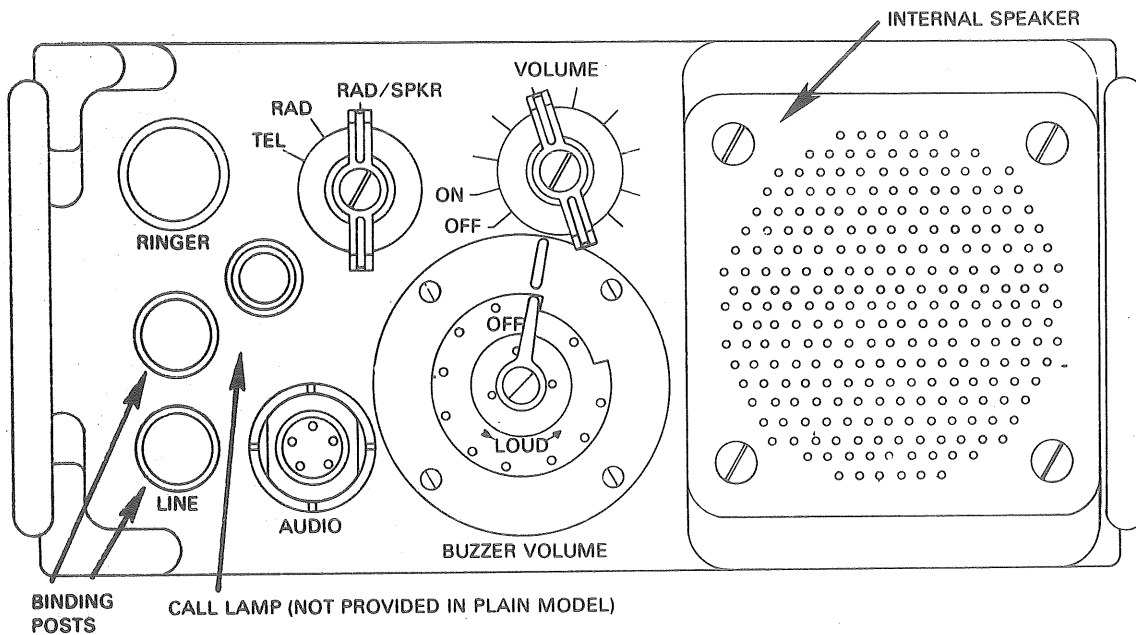

Figure 2. Remote Control C-2328(*)/GRA-39, controls, indicator, and connectors.
b. Remote Control C-2328(*)/GRA-39. (Refer to fig 2, and TM 11-5820-477-12, para 3-3b and 3-4b.)
- (1) Turn the VOLUME control to approximately midrange.
- (2) Turn the BUZZER VOLUME control to approximately midrange.
- (3) Connect a handset to the audio connector.
- (4) Set the TEL-RAD-RAD/SPKR switch to the TEL position.